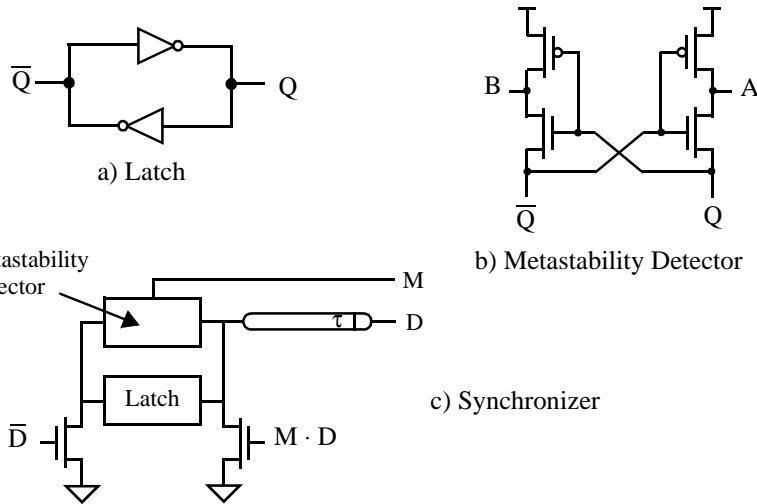

Figure 0.14 Simple synchronizer
13. The heart of any static latch is the cross-coupled structure shown in Figure 0.14 (part a).